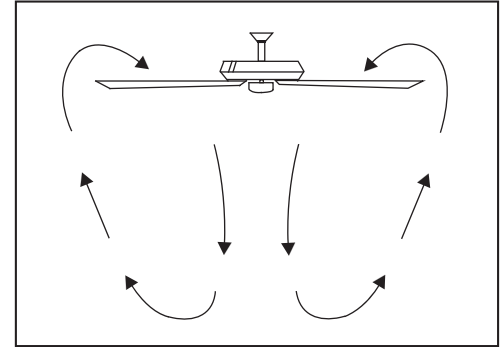

Figure 15
**Warm weather** - (Counter-Clockwise direction) A downward air flow creates a cooling effect as shown in Figure 15. This allows you to set your air conditioner on a higher setting without affecting your comfort.